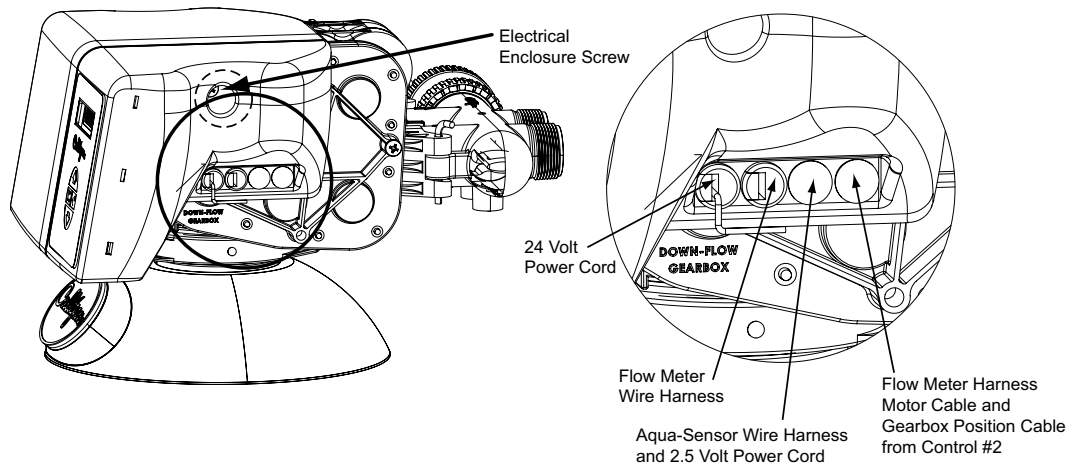

Figure 19. Circuit board connections.
1. Remove the electrical enclosure from both control valves. First remove the electrical enclosure screw and then gently remove the enclosure from the control. Refer to Figure 19 and below instructions.